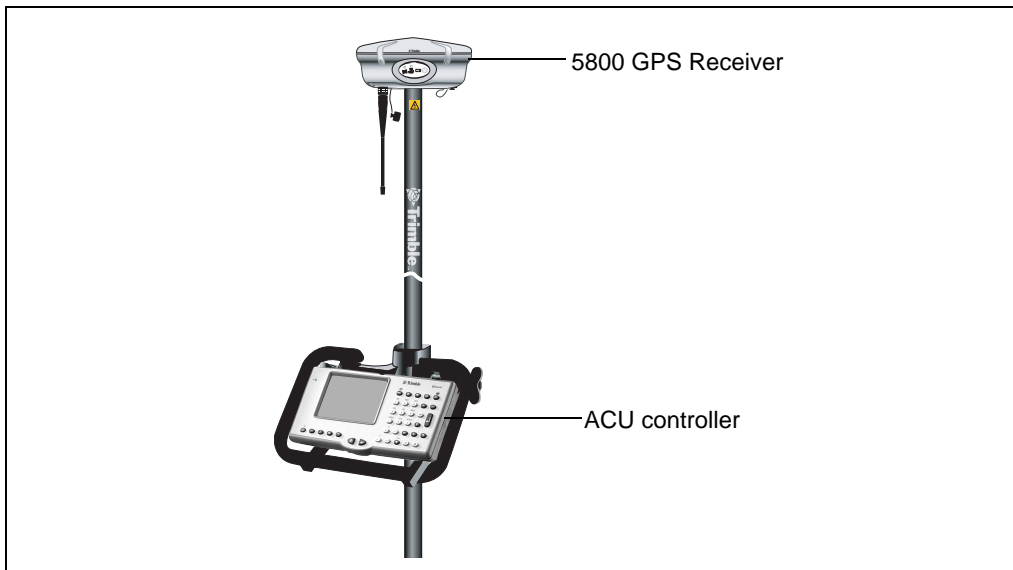

Figure 12.3 5800 receiver pole-mounted setup
4. If using the TSC1, connect the data-i/o cable from Port 1 of the receiver to a port on the TSC1. If using the Trimble ACU, or TSCe with Bluecap module, no cabling is required, as shown in Figure 12.3.